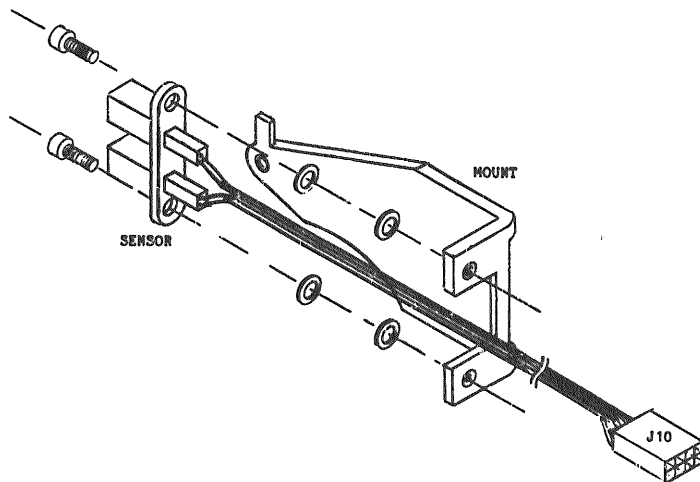

Figure 6-13. Track Zero Sensor
- d. Remove the two screws and washers holding the Sensor Assembly to the Track Zero Mount; see Figure 6-13.